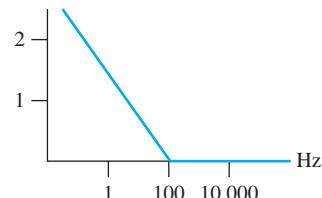

FIGURE P7.15 Magnitude plot for Problem 7.15.
- 7.15** (B) What is the transfer function of the plot in Figure P7.15?